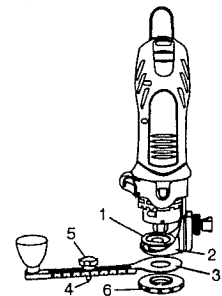

Fig. 12
- Insert the externally threaded circle cutter mounting insert (1) into the bottom of the sole plate (2) (see Fig. 12).
- Place circle cutter mounting hole (3) over the externally threaded circle cutter mounting insert.
- NOTE: Make sure pointed pivot pin (4) is pointing away from the tool.
- Screw the internally threaded circle cutter mounting disc (6) onto the externally threaded circle cutter mounting insert and hand tighten.
- Adjust the circle cutting radius by loosening pivot point knob (5), sliding it to the correct circle radius and re-tightening in the desired location.